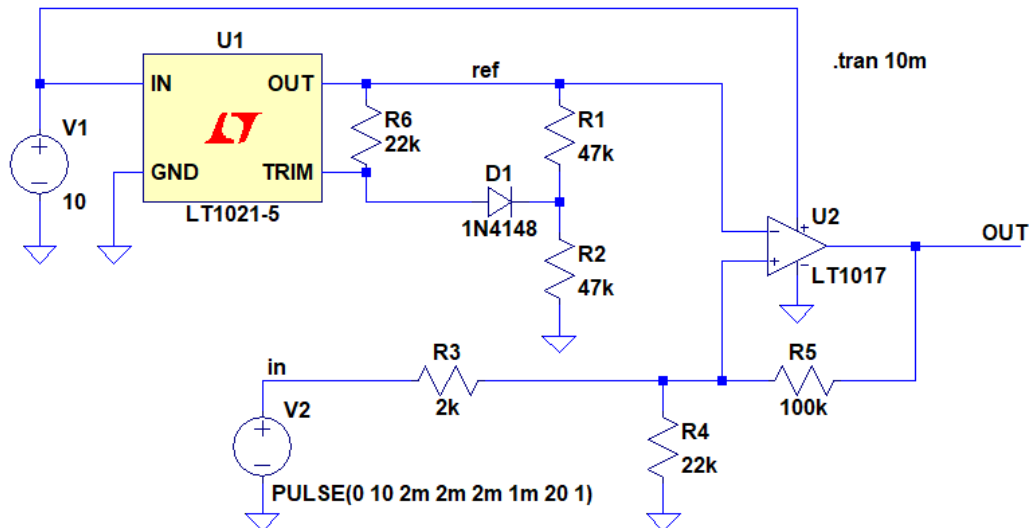

Fig. 7. Diagram of the tested comparator system.
1. Create a diagram of the comparator system with feedback according to Figure 7.
2. Set the values of the elements according to Figure 7.